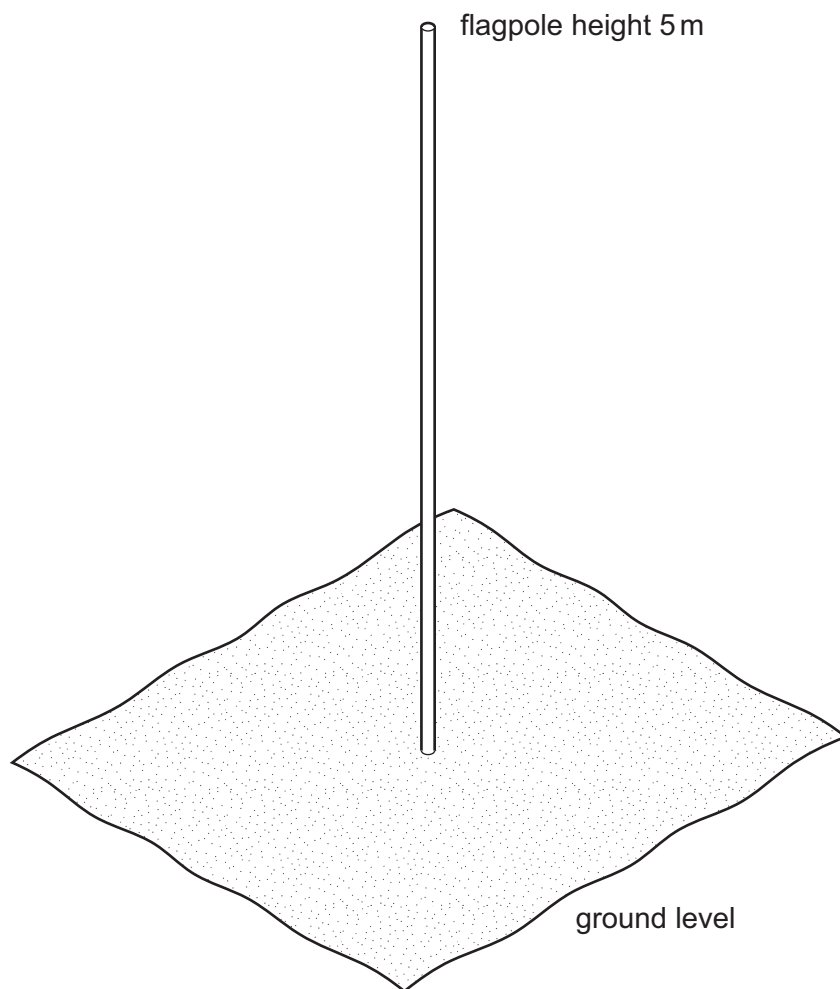

Fig. 9.4
- (ii) Fig. 9.4 shows a flagpole that needs to remain vertical.